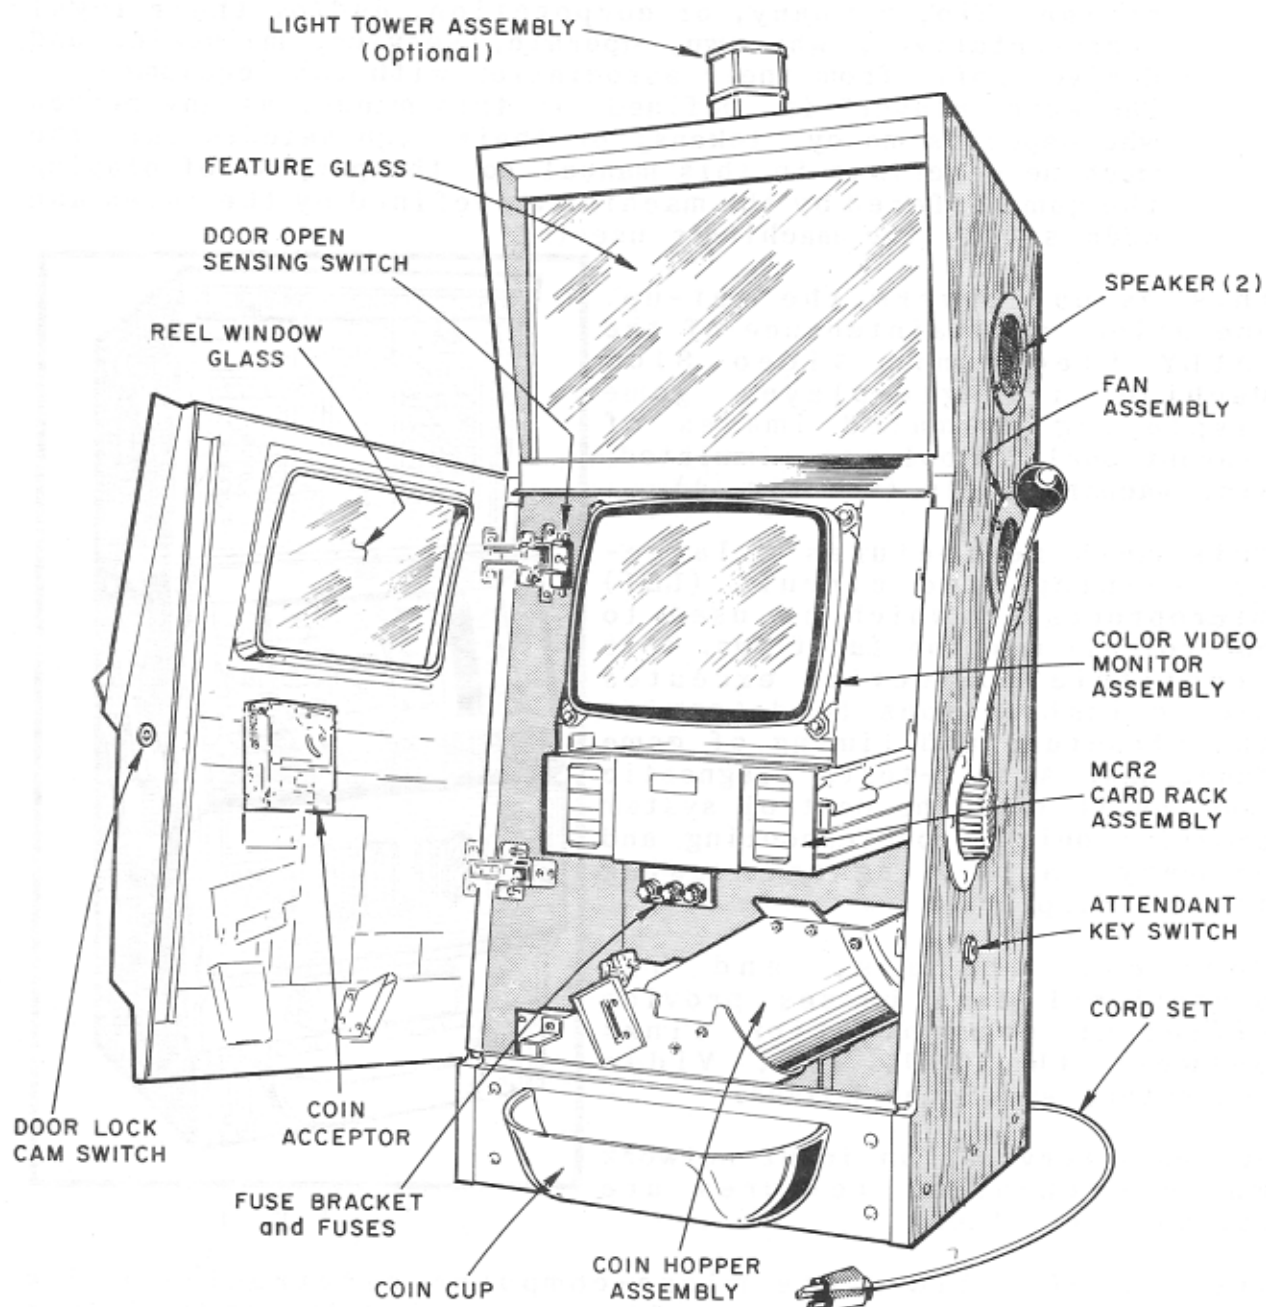
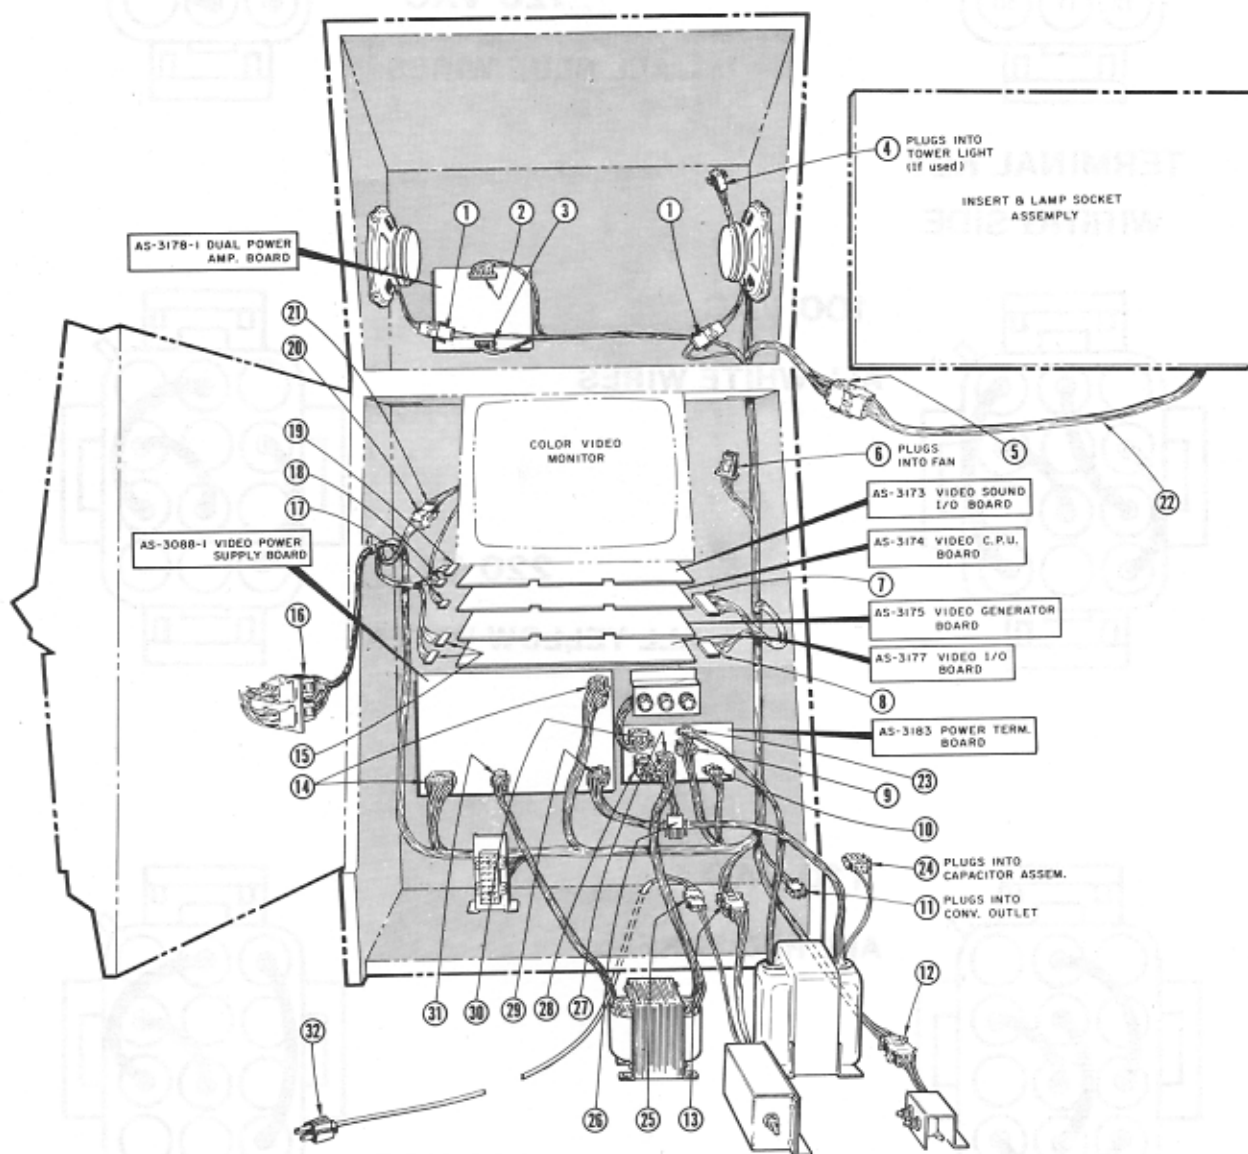
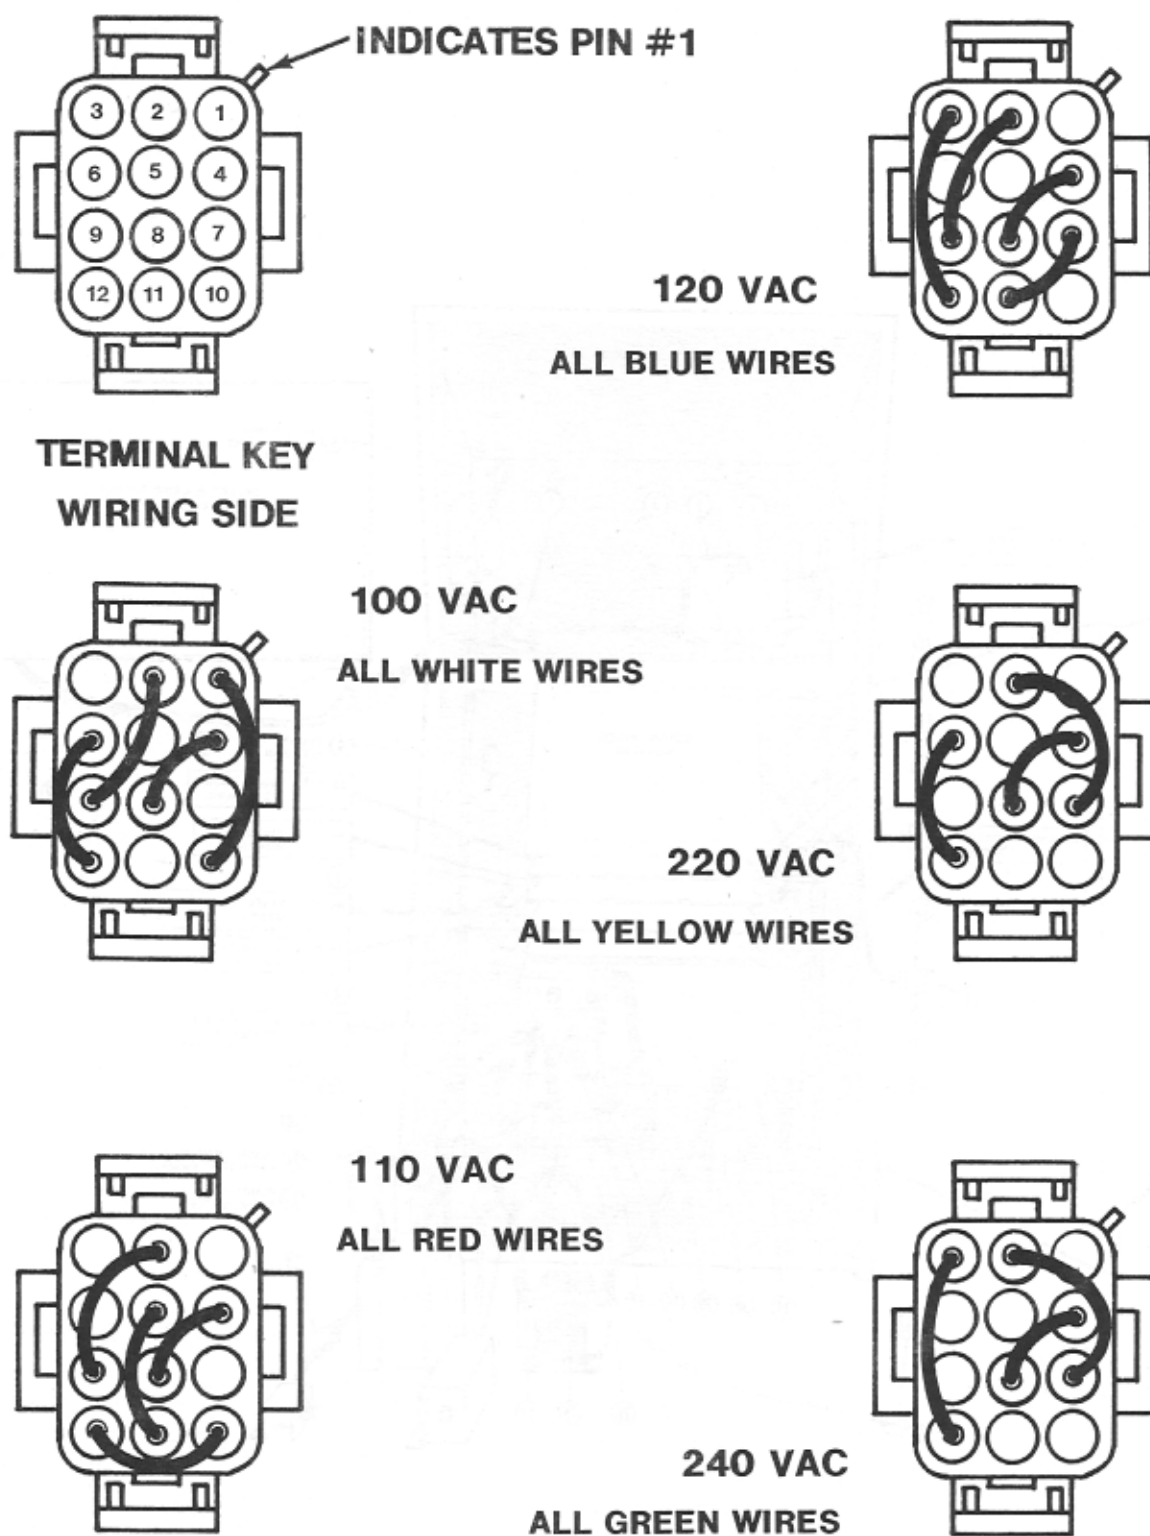

Fig. 2
Fig. 3
Fig. 4
4. Open the front door of the machine and inspect its interior for any sign of damage and verify that all plug in connectors on the wiring harness are firmly seated. Plug in any connectors found loose (see Fig. 2, pg. 4 & Fig. 3, pg. 5).
5. Verify that all printed circuit boards (P.C.B.'s) are firmly seated in their connectors (see Fig. 3, pg. 5). These connectors are also keyed and can only fit onto the P.C.B.'s one way without damage.
6. Check all major sub-assemblies and verify that they are securely mounted (see callouts Fig. 2, pg. 4).
This machine is designed to work properly on the available line voltage. Check the line voltage with a meter, then check the "line code plug" on the machine's power terminal board (see Fig. 3, pg. 5). Compare the machine's line code plug against the line code plug voltage value chart in Figure 4. If the measured line voltage and the machine's line code plug voltage match, the machine can be plugged in.